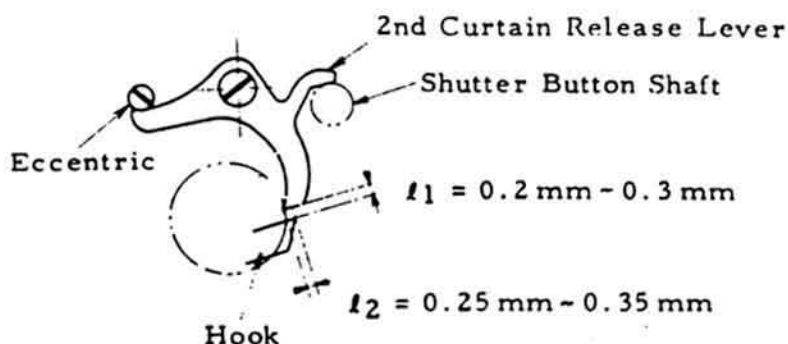

Fig. 23
- 3) Install the Lever and Hook as shown in Fig. 23.
For l_1 adjustment, select a suitable 2nd Curtain Release Lever (19-0656). (Fig. 23)
For l_2 adjustment, align the eccentric screw. (Fig. 23)